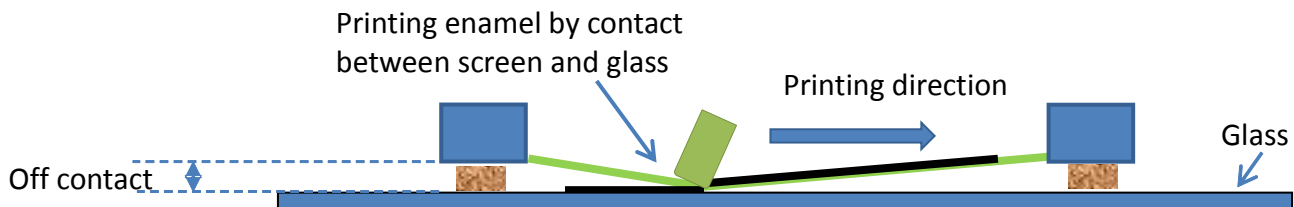

Figure 3 : printing on glass
- For printing, **push on squeegee** to have the screen in contact with the glass for enamel transfer (Figure 3) and pull toward the logo area with a constant speed